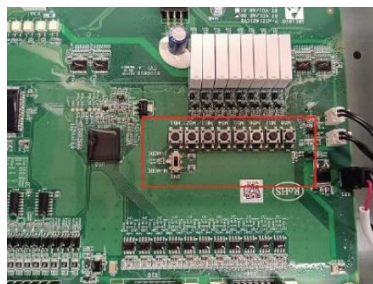

Figure 3.13 Manual brake plate
- 1) Find the location of the manual brake plate, which is usually on the right side of the upper surface of the control cabinet, as shown in Figure 3.13. First remove the outer cover